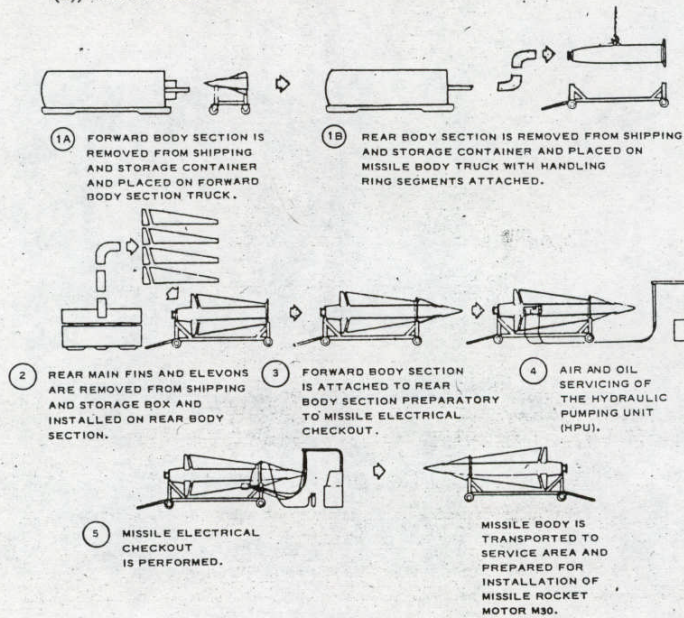

Figure 3-13. Assembly area operations flow chart.
a. General. Operations performed in the assembly area are illustrated in figure 3-13. At the conclusion of these operations, the forward and rear body sections are transported to the service area.
- (1) Check the body section container for external damage and inspect the lead seals.
- (1) Check the main fin for external damage and inspect the lead seals.
- (2) Open the container, inspect for damage, and check the contents against the packing list.
- (3) Remove and inspect the thermal battery pack, then replace it.
- (4) Position the rear body section so that two fins can be installed horizontally and install two rear main fins.
- (5) Rotate the rear body section 90° and install the remaining two fins.
- (6) Install the elevons.
- (7) Bolt the testing fixture to the front end of the rear body section, then bolt the forward body section to the testing fixture (fig 3-13(3)). Connect the transponder control group wiring harness in the rear body section to the fail-safe wiring harness and connect the fail-safe wiring harness to the fail-safe control and sequential timer on the forward body section (fig 3-15(5) and (6)).